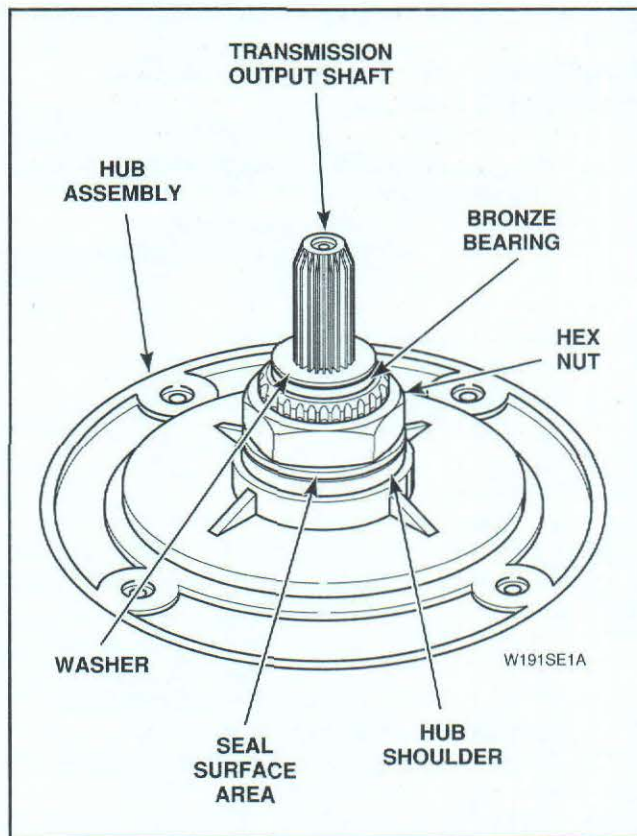

Figure 41
- j. Remove large hex nut using a No. 237P4 Hex Wrench, *Figure 41*.
- k. Remove spline insert from transmission tube, *Figure 41*.